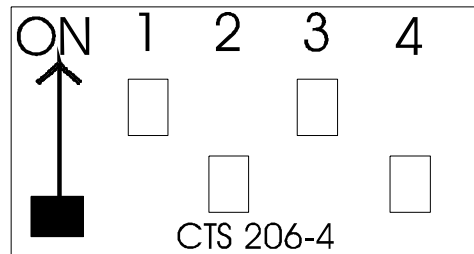
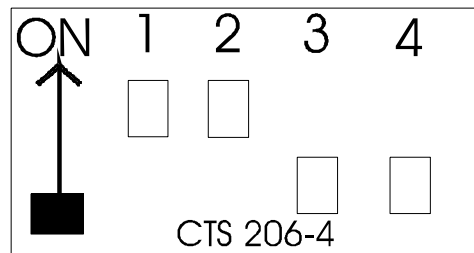

FIGURE 2
FIGURE 3
- a) Next set the 4 pole blue DIP switch to match the slot number the board is being tested in. For example, if the unit under test is placed in slot 5, then the switch should be set as follows in **Figure 2** below. If the unit under test were in slot number 3 then the settings would be like the ones shown in **Figure 3**.